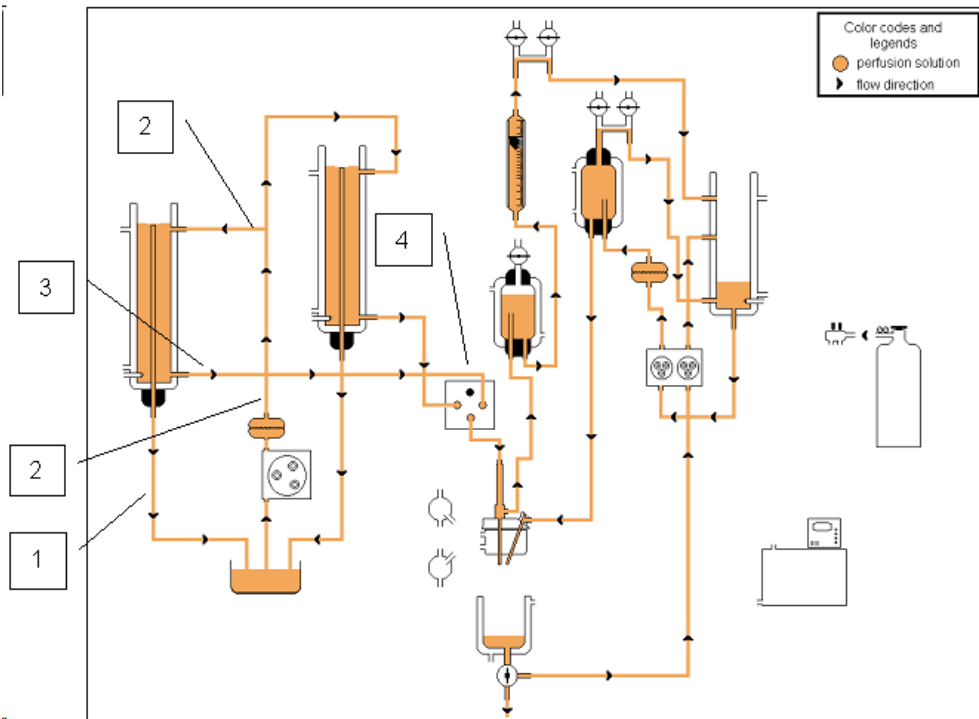

Fig. 71–The new perfusion circuit is shown schematically.
2. From the longer pieces of silicone tubing, determine the one that fits best between the outlet of the overflow tube in the second perfusion column and the carboy filled with fresh perfusion buffer. This tube should not go below the surface of the buffer when the carboy is filled. Connect the correct tubing (1 on Fig. 71) to the end of the overflow tube. Feed the other end of the tubing through hole in the tray top and into the top of the buffer carboy, just like the overflow tubing from the original perfusion column.
3. Cut the tubing that connects the filter to the buffer inlet of the original perfusion column (2 on Fig. 71) at the level of the buffer inlet of the second column (Fig. 66).
5. Connect the other long piece of silicone tubing to the buffer outlet of the second perfusion column (3 on Fig. 71, Fig. 67). The open end of this tube will be connected to an inlet on the valve tap (4 on Fig. 71)
6. Remove the Teflon plug from the second inlet on the back of the valve tap (4 on Fig. 68). To gain access to the back of the valve tap, it is helpful to loosen and move the holders for the pressure sensors out of the way (Fig. 69). Firmly connect the open end of the outlet tubing from the second perfusion column (3 on Fig. 71) to second inlet of the valve tap (4 on Fig. 68).